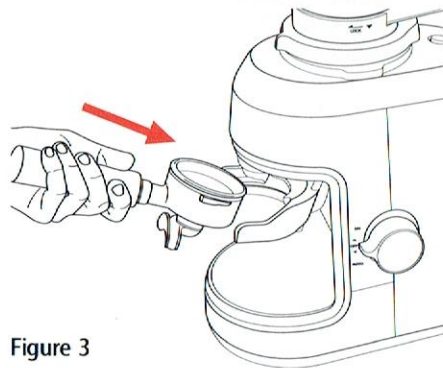

Figure 3
7. Insert the group handle into the group handle cradle at an inclined angle placing the front edge under the lip of the group handle cradle. See figure 3.
10. Insert the group handle into the group handle cradle at an inclined angle placing the front edge under the lip of the group handle cradle. See figure 3.